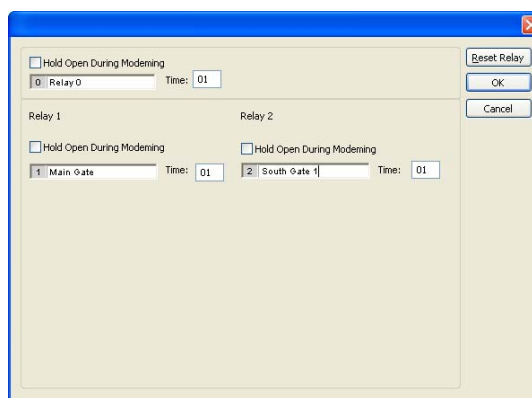

Figure 20
1. From the SYSTEM INFO screen, click the RELAYS button in the tool bar. The relay information screen will appear (fig 20).
3. Click in the name field, then enter a name for the relay. This is the name that will appear on the transaction reports, for example: "Main Gate" or "Side Gate". The maximum characters that can be entered in this field is 12 (Fig 20).